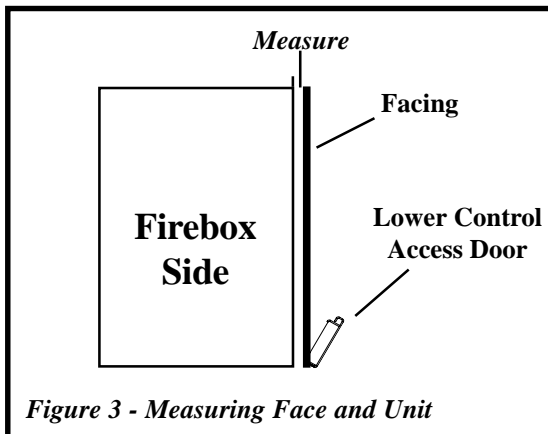

Figure 3 - Measuring Face and Unit
5. If face is installed as a flush mount, then there is no need to measure between firebox and face. If marble or other non-combustible material is used between the firebox and facing, then measure distance between face and unit. (**Max. of 7/8”**) (See Figure 3)